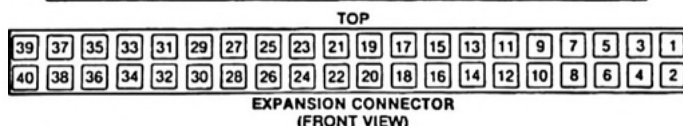

Figure 6-4 Pin assignments for the expansion connector.
Step 4 — The internal expansion connector pins of the Color Computer are laid out as shown in Fig. 6-4. Notice that the odd pins are on the top of the expansion connector and the even pins are on the bottom of the connector. Consequently, the edge connector pins on the top of the breadboard will make contact with the odd pins of the